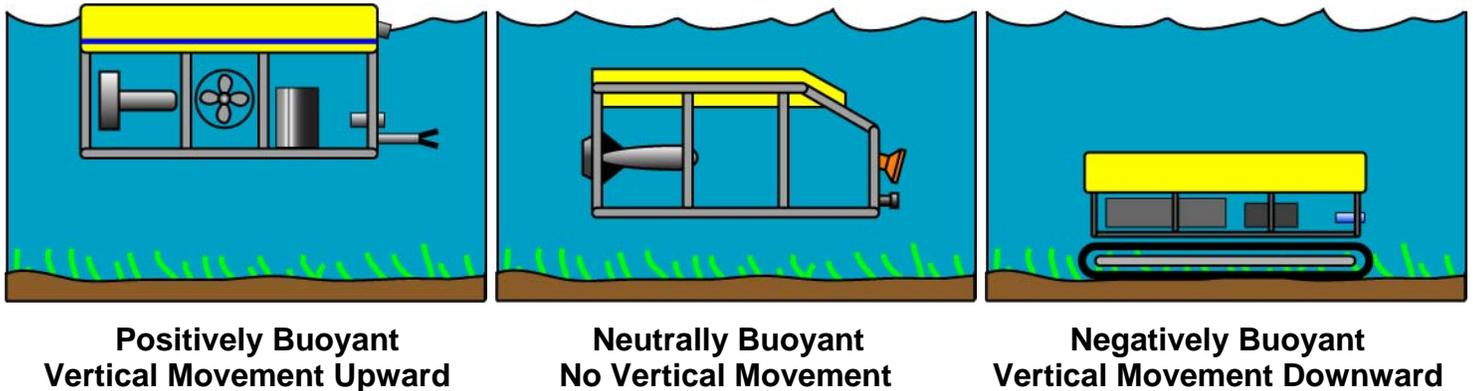

Figure 4: Positive, Neutral, and Negative Buoyancy
- Three possible conditions for the object (see Figure 4):